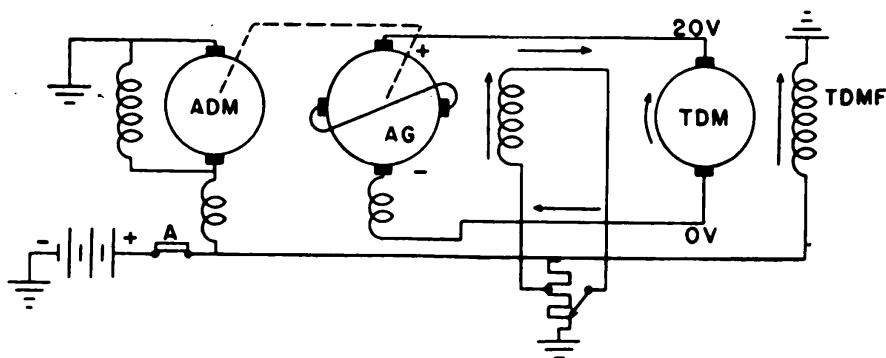
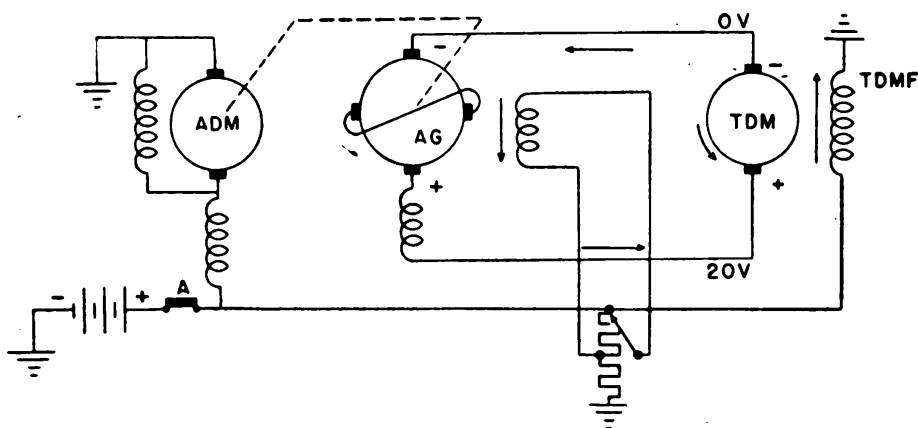

Figure 22.—Schematic diagram of turret.
Figure 23.—Opposite potentiometer deflection.
Figure 22 is a simple schematic diagram of the turret as developed so far. When switch *A* is closed, the compound-wound amplidyne drive motor (ADM) begins rotating. It drives the amplidyne generator (AG) at a speed of 8,300 rpm. Rotation of these armatures is always in the same direction.
Figure 22 shows the potentiometer in a deflected position, and the control field excited. At full deflection of the potenti-
Figure 23 shows what happens when the potentiometer movable pointer is deflected in the opposite direction. First, the control-field flux REVERSES. This reverses the short-circuit flux, which causes the polarity of the generated output to reverse. Thus reversed, generated output will cause current to flow in the opposite direction (to that in figure 22) through the TDM armature. This causes the TDM to reverse rotation.
Fundamentally, the schematics shown in figure 22 and figure 23 are the actual circuits in the turret — all that is needed